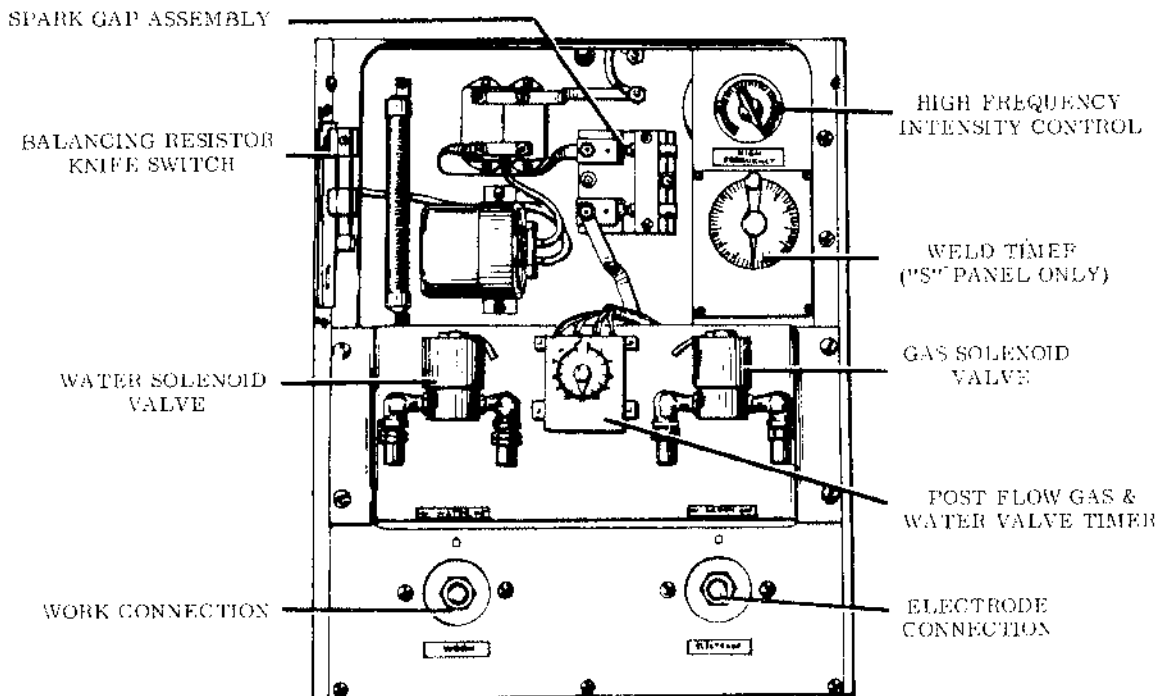

FIGURE 13 - LOWER CONTROL PANEL VIEW
6. GAS AND WATER CONNECTIONS (For Gas Tungsten-Arc Welding) (See Figure 13) (P Panel only models are equipped with gas and water valves)
16. BALANCING RESISTOR CONTROL SWITCH (Figure 13)
17. POST FLOW GAS AND WATER VALVE TIMER (Figure 13)
- p. Place the AUTOMATIC-MANUAL Switch in the "AUTOMATIC" position. Weld time interval of zero to 3 seconds will be controlled by the Weld Timer, Figure 13. If it is desired to control the weld time manually, place the switch in the "MANUAL" position and the gun switch will control the weld timer.